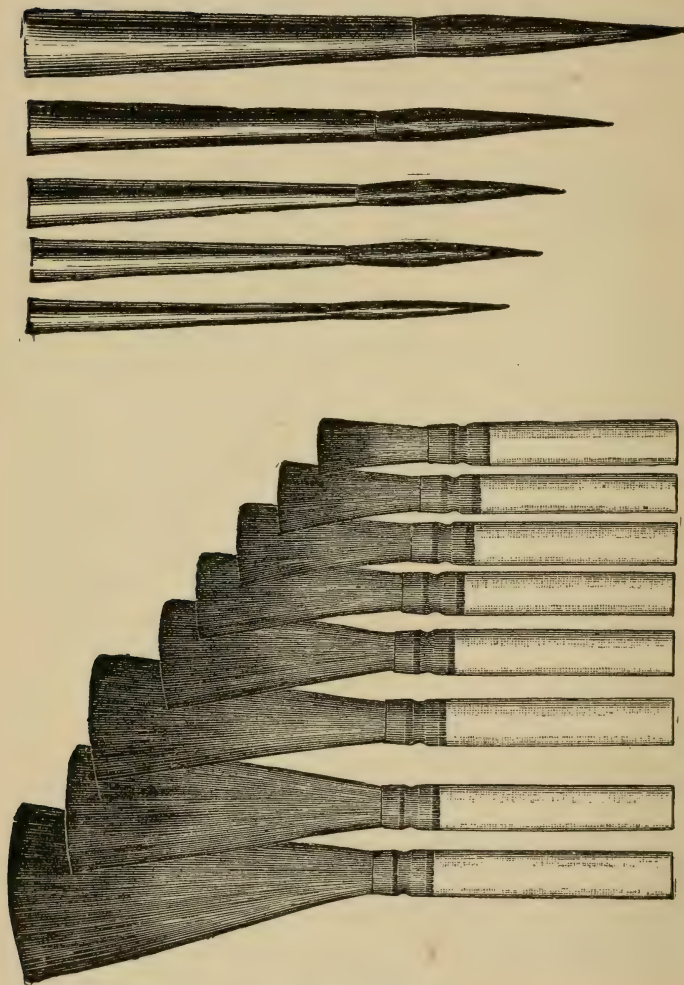
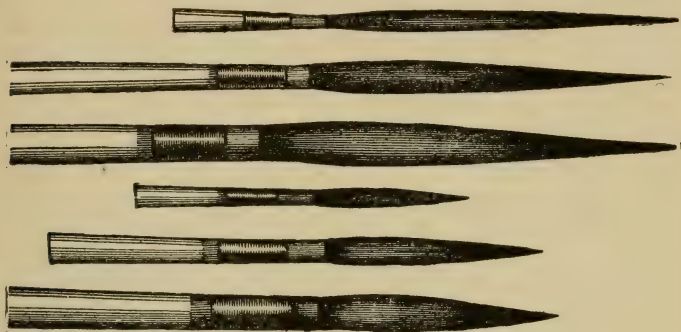
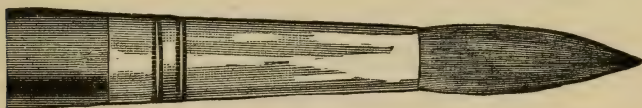

Fig. 36—Lettering.
Fig. 37—Striping Pencils.
Fig. 38—Round.
trate all other makes as shapes and bindings are about the same. See Fig. 36 for lettering and Fig. 37 for striping brushes, and Fig. 38 for metal bound handled.
c. Sign writers' quilled and ferruled letterers are the same in size and shapes as shown in Fig. 36.
d. Striping brushes of this material are indispensable for use in heavy colors. See Fig. 37 for shape and sizes.